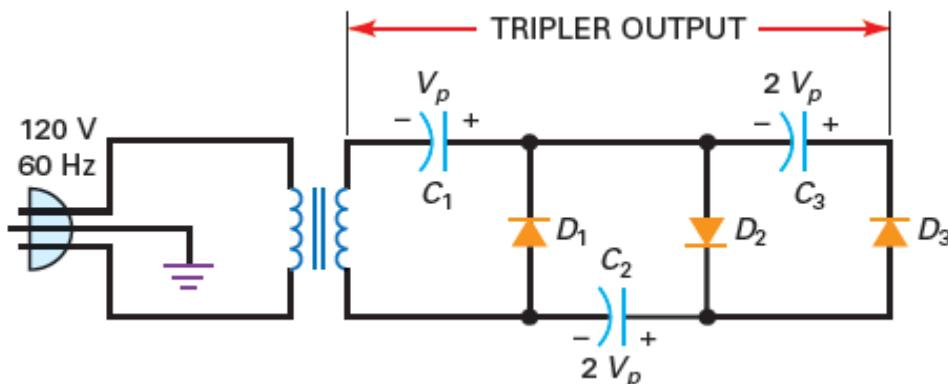
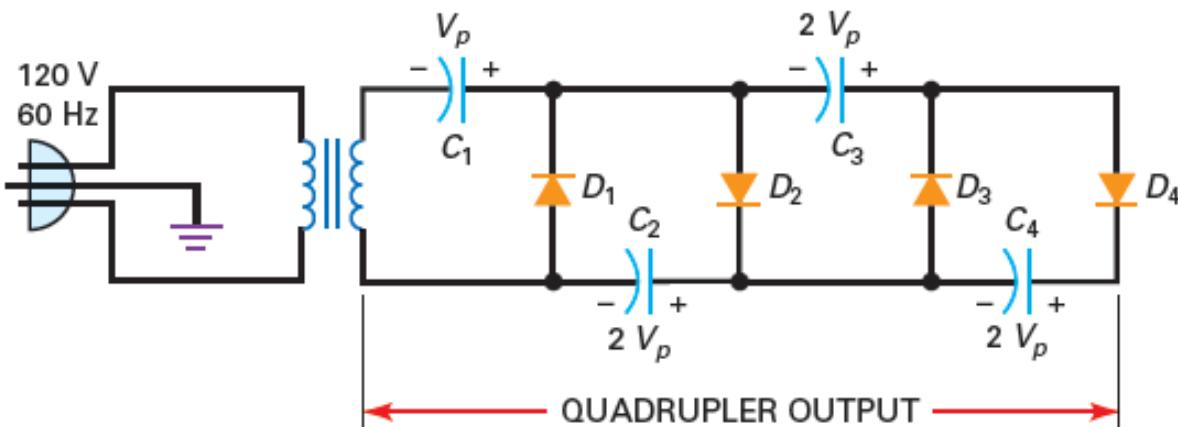

Figure-83 Voltage Tripler
Figure-84 Voltage Quadrupler
- By connecting another section, we get the voltage Tripler of Figure-83. The first two sections act like a doubler.
- At the peak of the negative half-cycle, D_3 is forward biased. This charges C_3 to $2V_p$ with the polarity shown in Figure-83.
- Figure-84 is a voltage quadrupler with four sections in cascade (one after another). The first three sections are a tripler, and the fourth makes the overall circuit a quadrupler.
- On the other hand, Figures-85b and c are redesigns of the tripler (Figure-83) and quadrupler (figure-84). In some applications, you may see floating-load designs used (such as in the CRT); in others, you may see the grounded-load designs used.